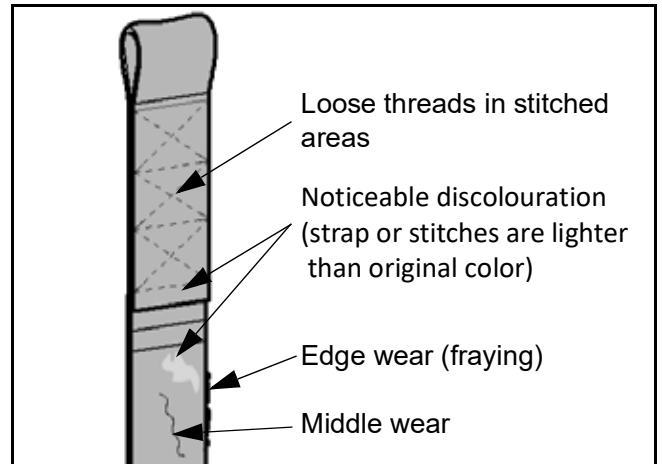

Fig. 9
- Inspect the strap for any visible signs of wear, frays, loose threads or other damage (see Fig. 9). If there is any evidence of damage, do not use it. Contact your local Joerns / Healthcare agent to have the lift serviced.
- 2) Look for any signs of wear or discoloration (see Fig. 9).